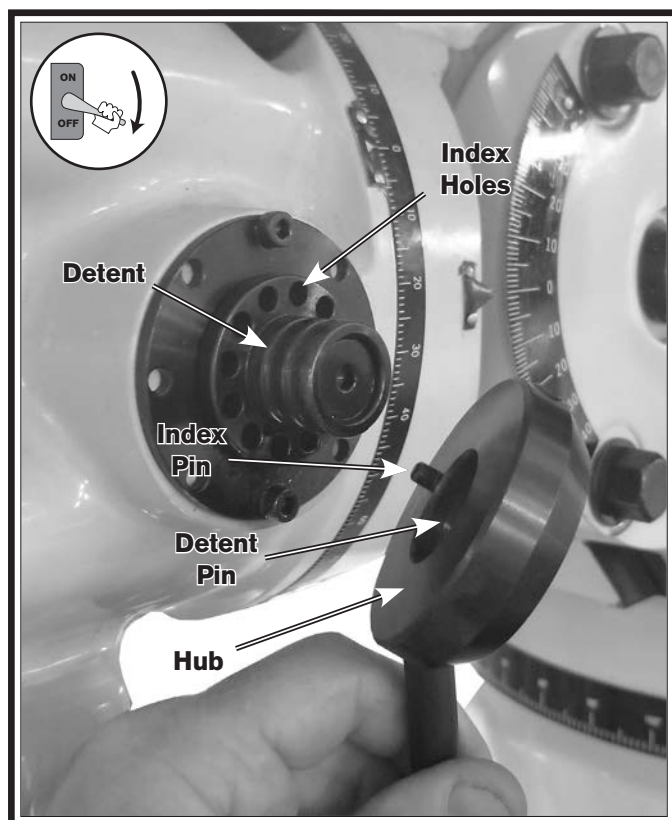

Figure 26. Downfeed handle hub, detents, and pin.
3. Align index pin with closest index hole (see **Figure 26**).